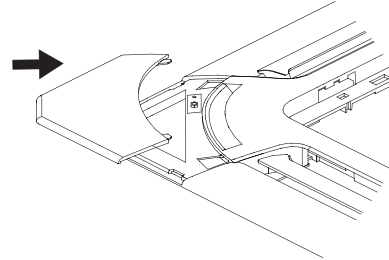

Fig. 10.6
6. Fasten the installation covers at all four corners by pushing them inwards. (See Fig.10.6)